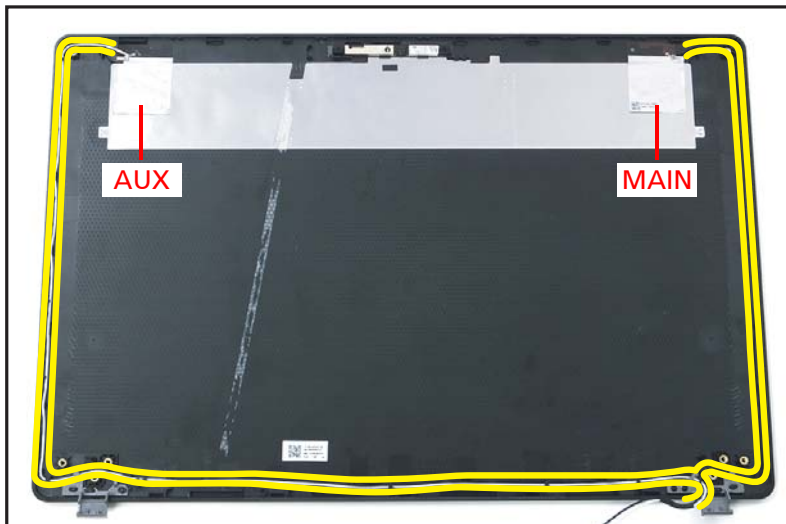

Figure 1-67. Replacing the WLAN Antenna
5. Route the WLAN antenna cables through the cable guides on the LCD cover as shown in Figure 1-67.